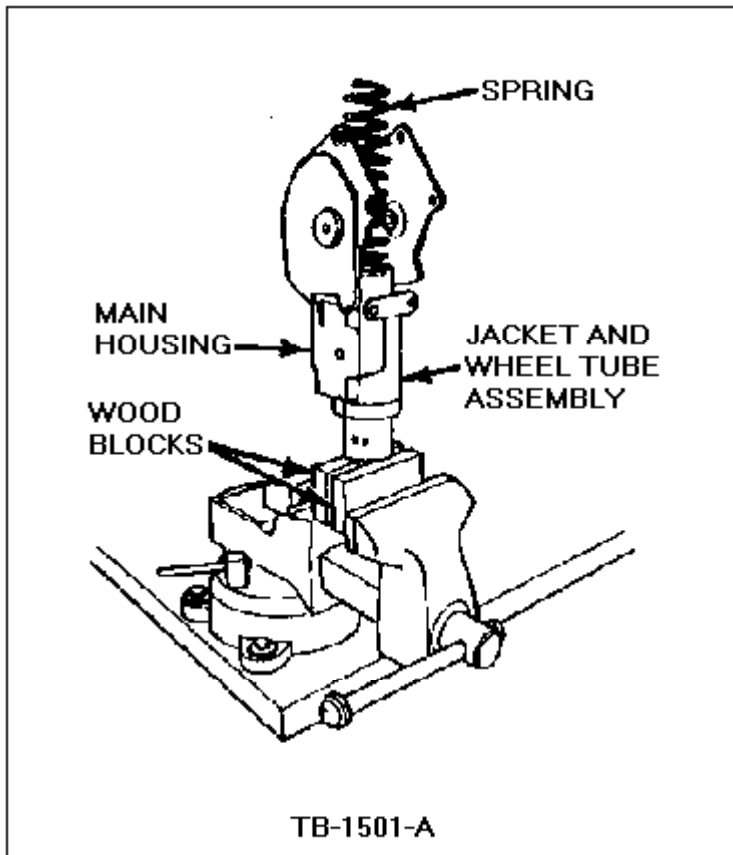

Figure 34 - Article 90-5-10
27. Position the main housing in a soft-jawed vice with the wheel tube end pointing down. Clamp firmly against the serrated end of the wheel tube, Figure 34.
28. Push the wheel tube and jacket to the full "down" position in the main housing, Figure 34.
29. Install the spring into the jacket tube and over the lower end of the wheel tube and the splined sleeve assembly, Figure 34.
30. Grease and assemble the universal joint splined shaft into the spring and into the splined sleeve so the slot in the splined shaft aligns with the wide flute in the mating splined sleeve. The two (2) fingers in the lower universal joint shaft will help guide the shaft into the splined sleeve.
32. While holding the universal joint and lower housing in place, tighten the four (4) self-tapping screws to 25-35 lb.ft. (34-47 N-m).